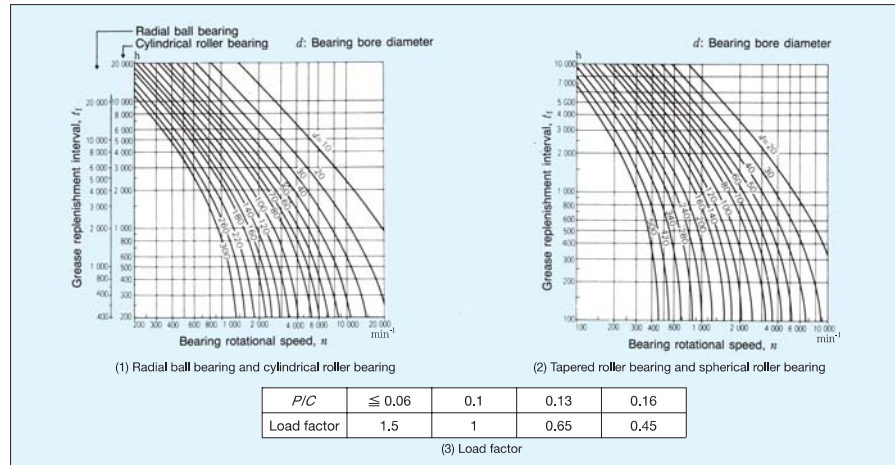

Fig. 4.2 Grease replenishment intervals
Even if high-quality grease is used, there is deterioration of its properties with time; therefore, periodic replenishment is required. Figs. 4.2 (1) and (2) show the replenishment time intervals for various bearing types running at different speeds. Figs. 4.2 (1) and (2) apply for the condition of high-quality lithium soap-mineral oil grease, bearing temperature of 70°C, and normal load ( $P/C=0.1$ ).
In case of ball bearings especially, the replenishing time interval can be extended depending on used grease type. (For example, high-quality lithium soap-synthetic oil grease may extend about two times of replenishing time interval shown in Fig. 4.2 (1). If the temperature of the bearings is less
Please refer to Fig. 4.2 (3), and multiply the replenishing time interval by the load factor.